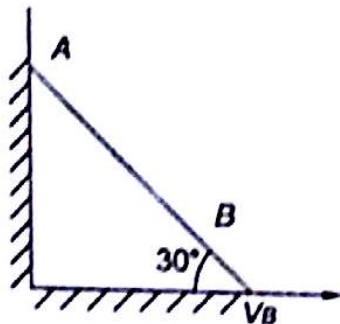

Fig. 12.20
- 12.3 A rod AB, 1 m long placed against a vertical wall and ground floor, as shown in Fig. 12.20. Velocity of end B of rod is 2 m/s at the particular instant as shown in Fig. 12.20. What is angular velocity of rod at this instant?